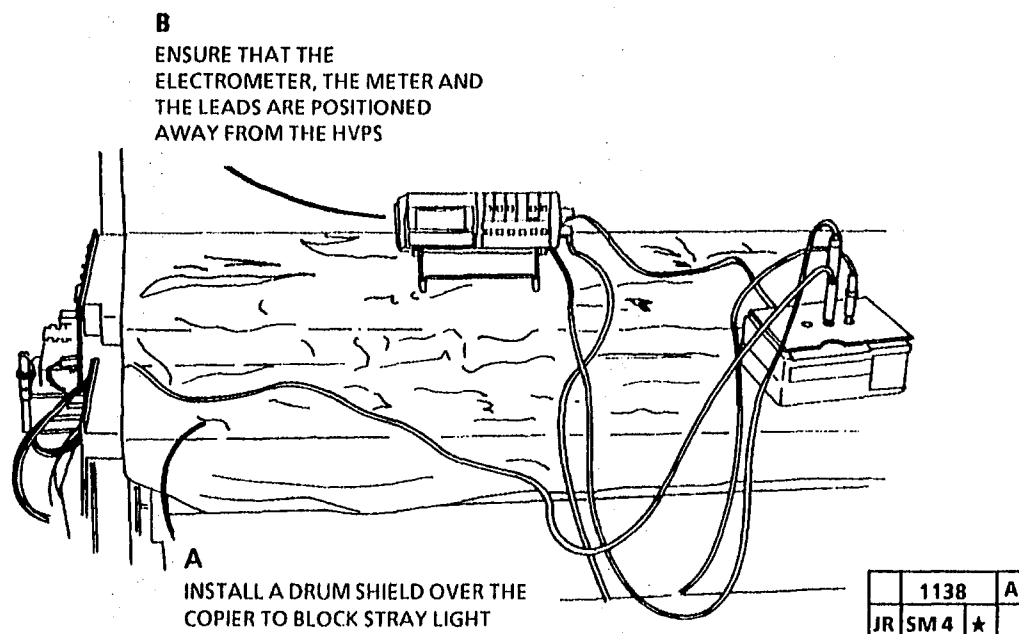

Figure 3. The Correct Position of the Electrometer, Meter and the Leads
- Place two (2) sheets of clean 20 pound (80 gsm) paper on the entire surface of the platen before installing the document handler.
- (Figure 3): Install the electrometer, meter and the test leads.
NOTE: STEP 11 B: The electrometer, meter and the leads must be positioned away from the HVPS in order to obtain correct voltage measurement. The meter and electrometer must also be separated as shown in Figure 3. Position the electrometer, meter and the leads this way for the remainder of the procedure. Do not connect the meter and electrometer at this time. The purpose of this illustration is to show the proper position. Attach the components as needed in subsequent steps.
NOTE: The electrometer, meter, and the leads are shown in this position only for clarity. Figure 3 of this procedure shows proper position when performing the electrostatic series.